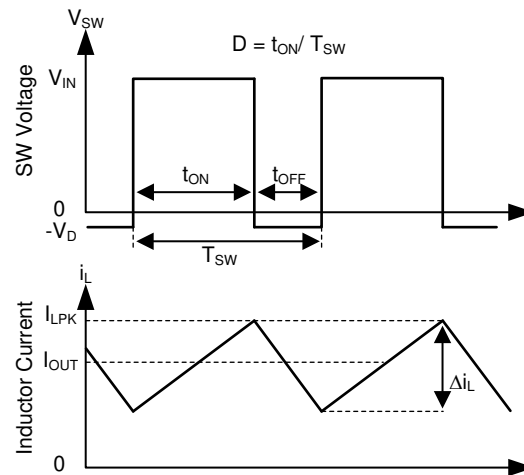

Figure 39. SW Node and Inductor Current Waveforms in Continuous Conduction Mode (CCM)
The following operating description of the TPS25830-Q1, TPS25831-Q1 will refer to the Functional Block Diagram and to the waveforms in Figure 39. TPS2583x-Q1 is a step-down synchronous buck regulator with integrated high-side (HS) and low-side (LS) switches (synchronous rectifier). The TPS2583x-Q1 supplies a regulated output voltage by turning on the HS and LS NMOS switches with controlled duty cycle. During high-side switch ON time, the SW pin voltage swings up to approximately V_{IN} , and the inductor current i_L increase with linear slope $(V_{IN} - V_{OUT}) / L$. When the HS switch is turned off by the control logic, the LS switch is turned on after an anti-shoot-through dead time. Inductor current discharges through the LS switch with a slope of $-V_{OUT} / L$. The control parameter of a buck converter is defined as Duty Cycle $D = t_{ON} / T_{SW}$, where t_{ON} is the high-side switch ON time and T_{SW} is the switching period. The regulator control loop maintains a constant output voltage by adjusting the duty cycle D . In an ideal buck converter, where losses are ignored, D is proportional to the output voltage and inversely proportional to the input voltage: $D = V_{OUT} / V_{IN}$.
The TPS2583x-Q1 is internally compensated as shown in Figure 39. The internal compensation is designed such that the loop response is stable over the specified operating frequency and output voltage range. The TPS2583x-Q1 is optimized for transient response over the range $300 \text{ kHz} \leq f_{sw} \leq 2300 \text{ kHz}$.